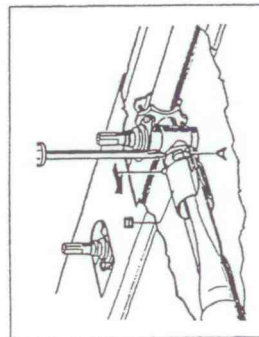

FIG. 21
- Loosen screw "A" and slide sleeve "B", away from control valve (refer figure 21).